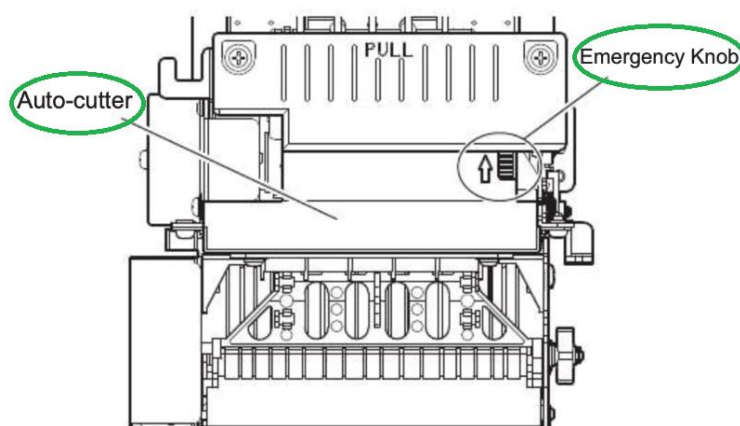

Figure 86. Printer Auto Cutter Release
- Use a tip of pen to roll the emergency knob in the direction of the arrow, as shown in Figure 86. This should remove any jam caused by paper or debris
- Rotate the emergency knob in the direction of the arrow on the top of the auto-cutter unit case to return the cutter blades to their home position, as shown in Figure 86